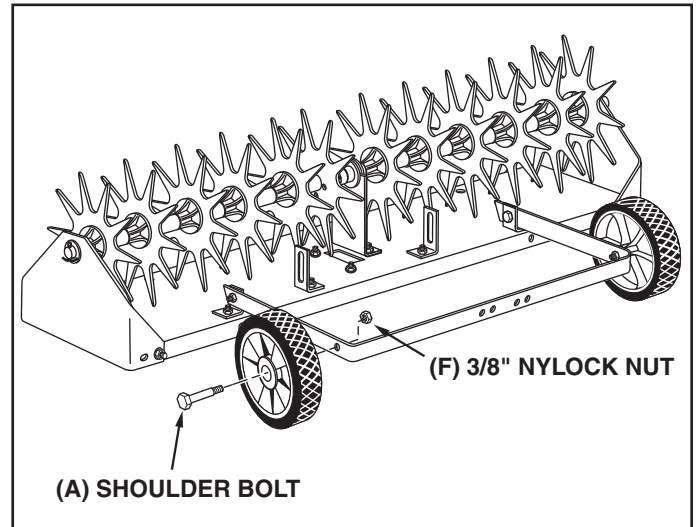

FIGURE 3 REAR VIEW
4. Assemble the wheels to the axle bracket using a shoulder bolt (A) and a 3/8" nylock nut (F) for each wheel. **Tighten**. See figure 3.